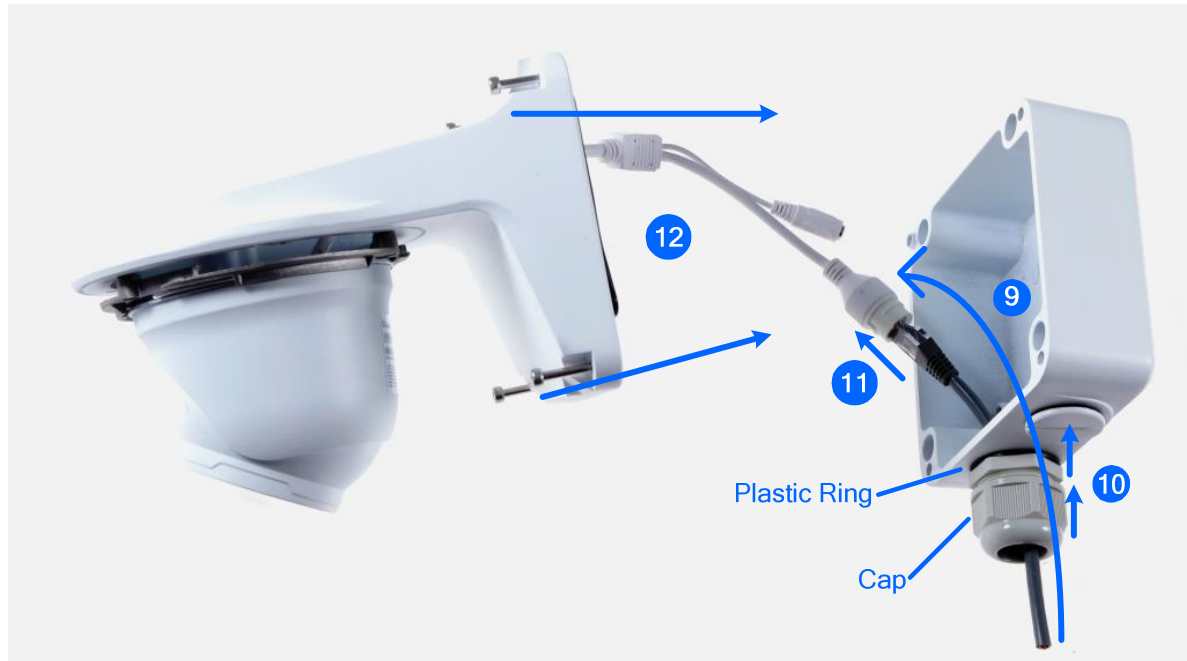

Figure 1-25
9. Thread the Ethernet cable through the PG21 conduit connector and the power box as shown in No. 9, *Figure 1-25*.
10. Rotate the plastic ring to secure the conduit connector to the power box. Screw in the cap as shown in No. 10, *Figure 1-25*.
11. Plug the Ethernet cable to the RJ-45 connector of the camera as shown in No. 11, *Figure 1-25*.
12. Screw the wall mount bracket to the power box as shown in No. 12, *Figure 1-25*.